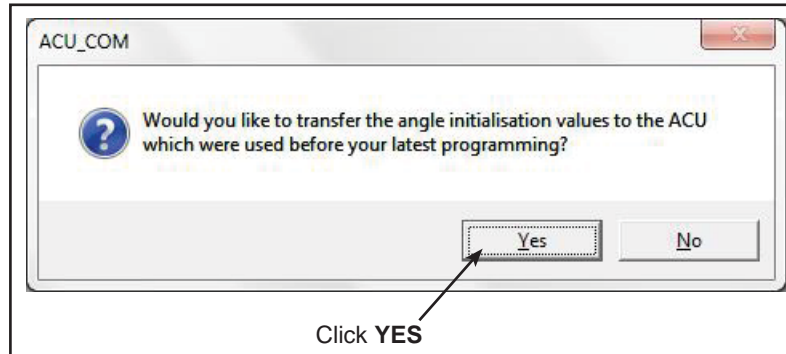

Figure 11 - Initialisation Values Pop-Up Window
- 1.15. A third pop-up window will appear, asking you if you want to keep the initialisation values. See Figure 11. Click **YES**.